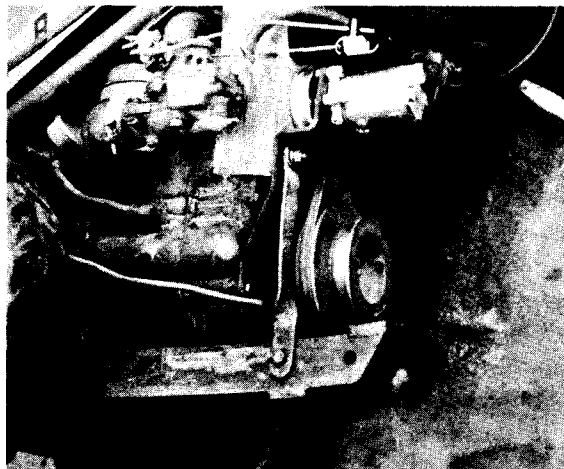

Figure 1
1. Install Governor on Governor mounting bracket. (Figure 1)
2. Install Governor with Governor mounting bracket to Tractor. (Figure 1)